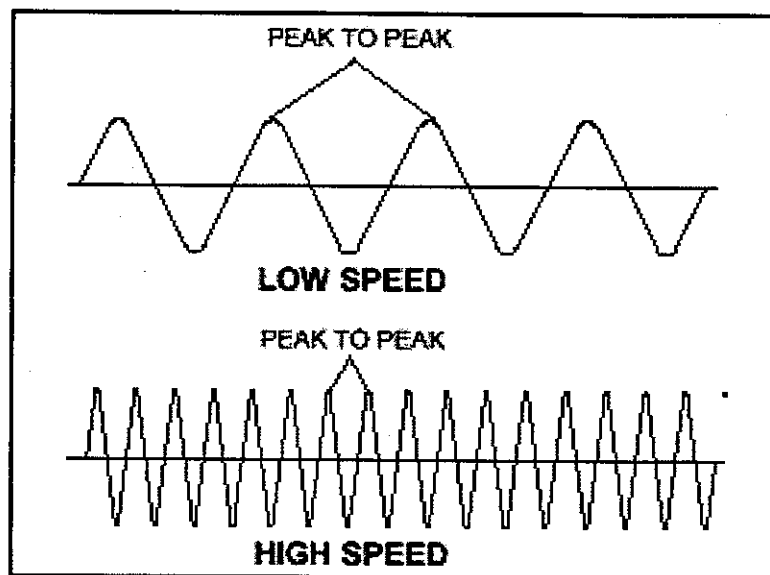

Figure 3—Speed Sensor Voltage Cycle Output
- See Figure 3—Speed Sensor Voltage Cycle output